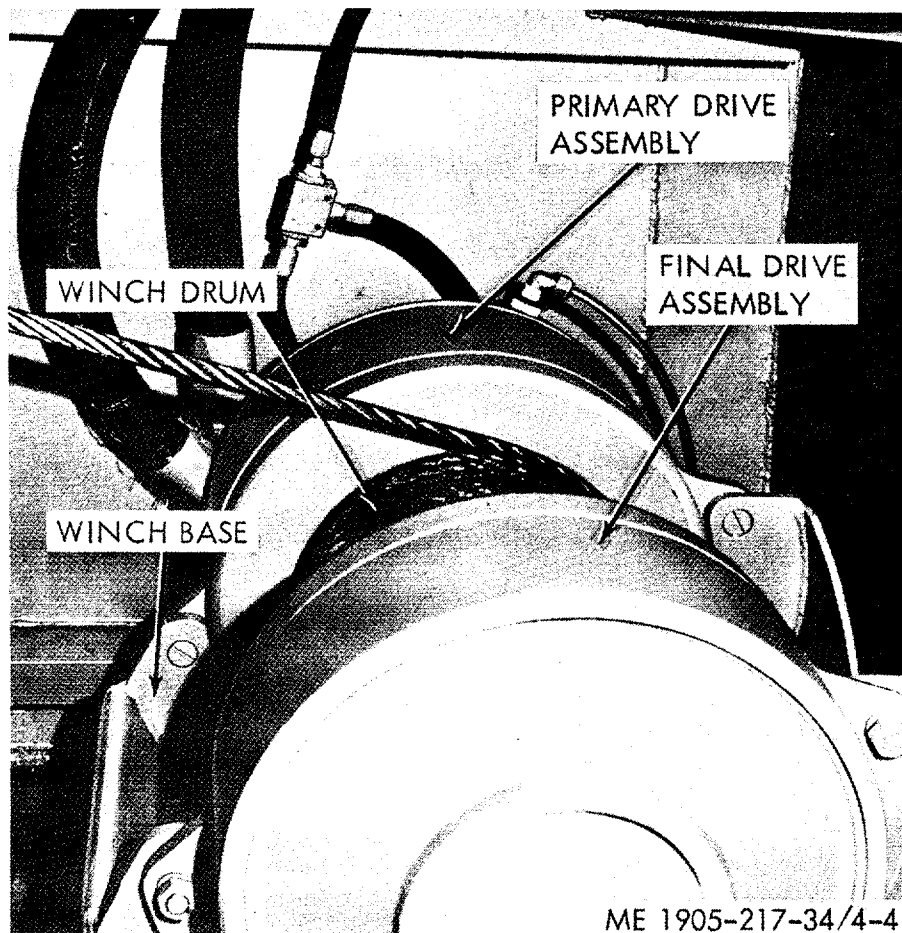

Figure 4-41. Winch (hulls 8520-8560 and 8580-8618).
(1) The Gearmatic hydraulic winch consists of a primary drive housing and a final drive housing fastened to a winch base by dowel bolts which hold the housings concentric. The winch barrel is carried on anti-friction bearings between the drive housings (fig. 4-41).